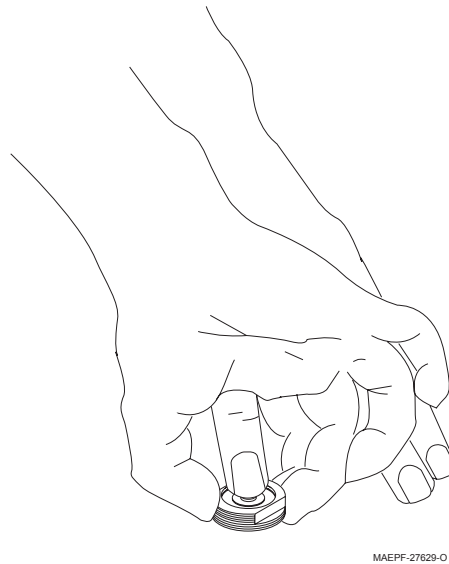

Figure 4. Threading the Locking Nut
10. Refer to Figure 4. While holding the bushing assembly down, thread the locking nut onto it.